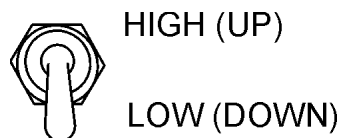

Figure 53. Engine Speed Switch (low)
10. If the generator is equipped with a Microprocessor Engine Control unit (MPEC), set engine speed switch to 'Low' (Figure 53).